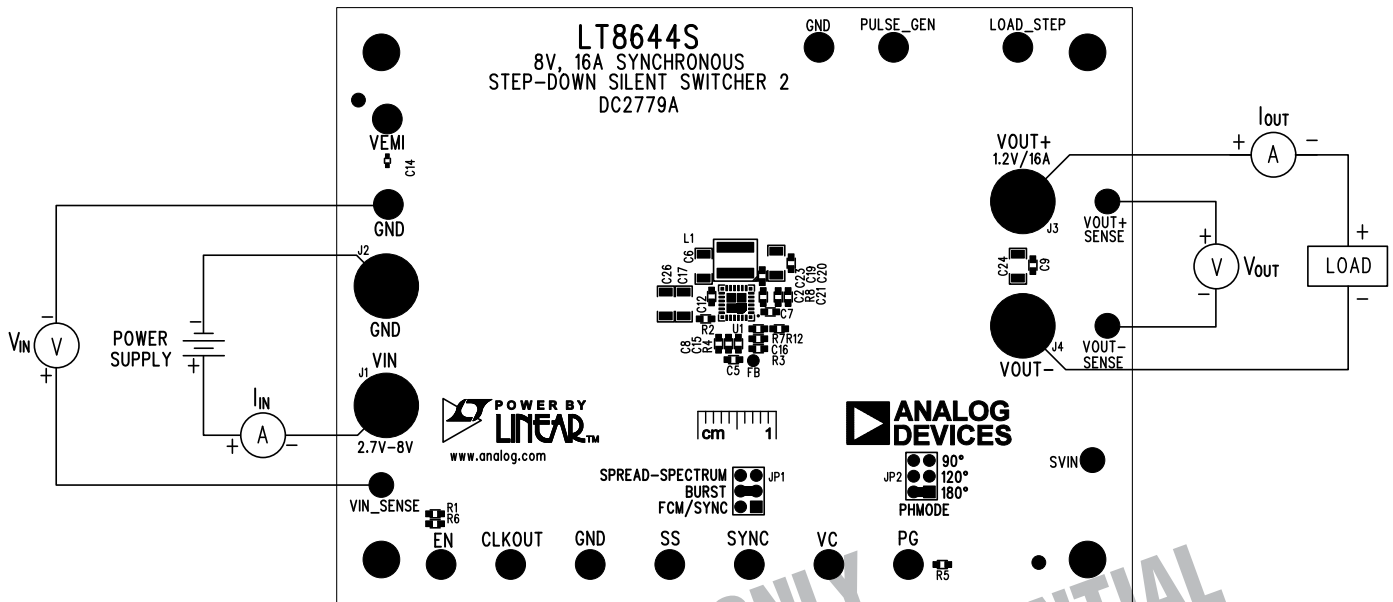
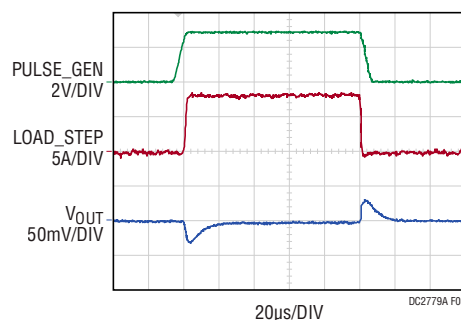

Figure 1. Proper Measurement Equipment Setup
Figure 3. LT8644S Demo Circuit DC2779A Transient Response ( $V_{IN} = 5V$ , 4A to 12A Load Step)
Demonstration circuit 2779A is easy to set up to evaluate the performance of the LT8644S. Refer to Figure 1 for proper measurement equipment setup and follow the procedure below:
9. To test the transient response, connect a signal generator to PULSE GEN terminal, and add a desired base load between  $V_{OUT+}$  and  $V_{OUT-}$  (LOAD shown on Figure 1). Adjust the signal generator with a 2ms period, 5% duty cycle and an amplitude from 1V to 2V to start. Measure the LOAD STEP voltage to observe the current ( $I_{LOADSTEP} = V_{LOAD\_STEP}/10\text{m}\Omega$ ). Adjust the amplitude of the pulse to provide the desired transient. Adjust the rising and falling edge of the pulse to provide the desired ramp rate. Figure 3 shows a load step from 4A to 12A. The 4A base load is added between  $V_{OUT+}$  and  $V_{OUT-}$ , while the 8A step load is controlled by the signal generator at PULSE\_GEN and measured at LOAD\_STEP with 0.01V/A ratio.